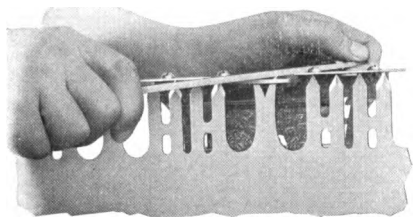

Fig. 3—FILING RAKER TOOTH
**Third**—To “fit” the straight or unswaged raker—where preferred—place the gauge over the raker teeth, as shown in Fig. 3, adjust for length of raker required, and file them down. Then file to sharp edge.